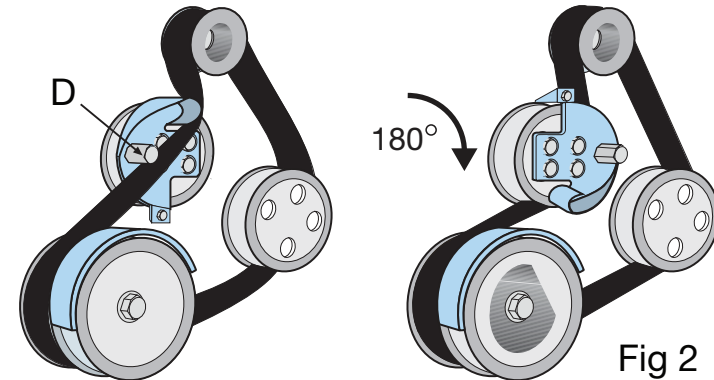
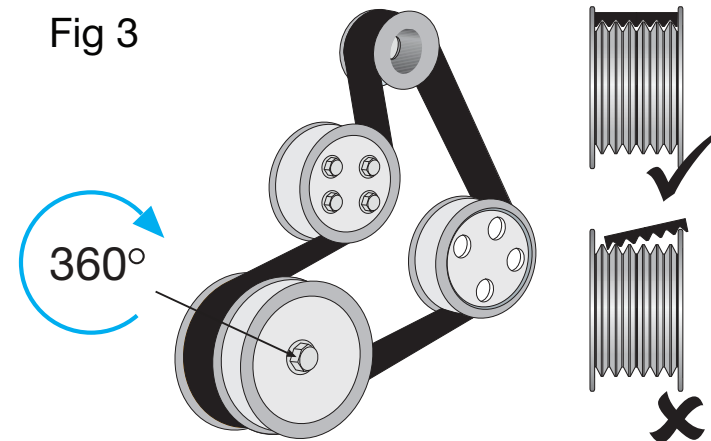

Fig 2
Fig 3
- Refer to Fig 2: fit the new auxiliary drive belt on to the installation tool (A) and the remaining pulleys.
- With a suitable 17mm spanner or driver on the drive hex (D), turn the installation tool (A) clockwise approximately 180° until belt is correctly located on all pulleys. (Refer to Fig 2.)
- Loosen securing bracket (C) and remove the installation tool (A). Remove the drive belt guide tool (B). Crankshaft may have to be rotated to allow the drive belt guide tool to be released.
- Refer to Fig 3: turn engine through at least 360° and visually check that new auxiliary belt is correctly located on all pulleys.